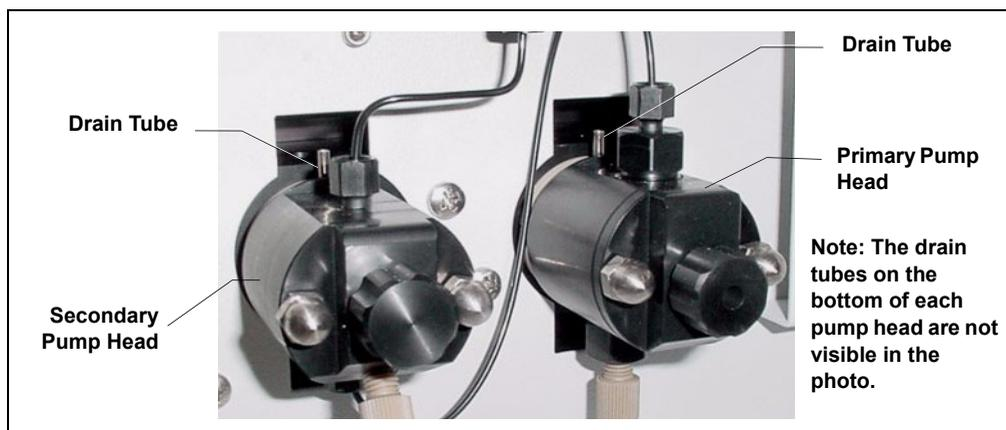
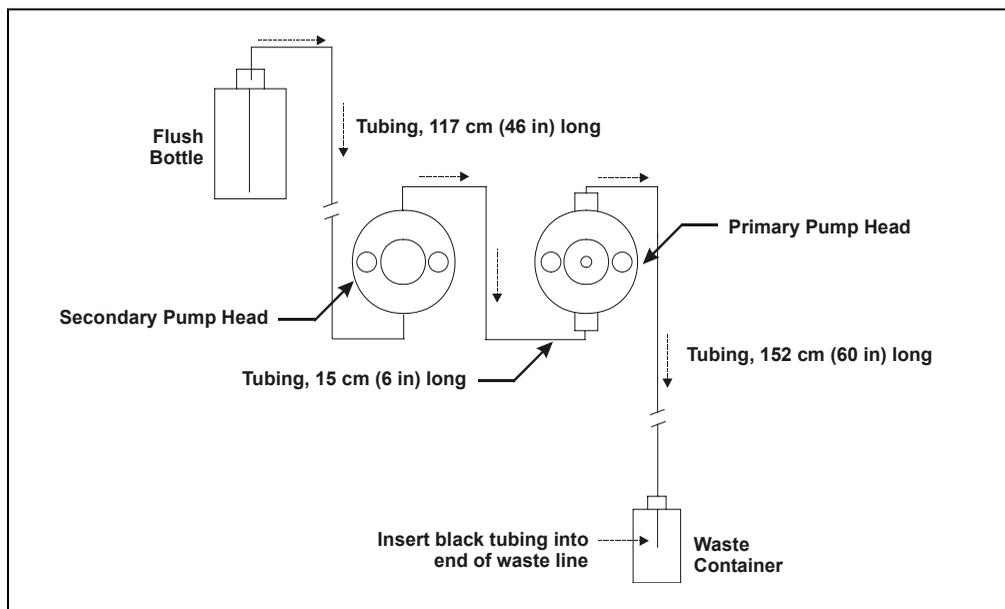

Figure B-68. Primary and Secondary Pump Heads with Drain Tubes
Figure B-69. Piston Seal Wash Flow Schematic
4. Install the tubing as follows (see Figure B-68 and Figure B-69):